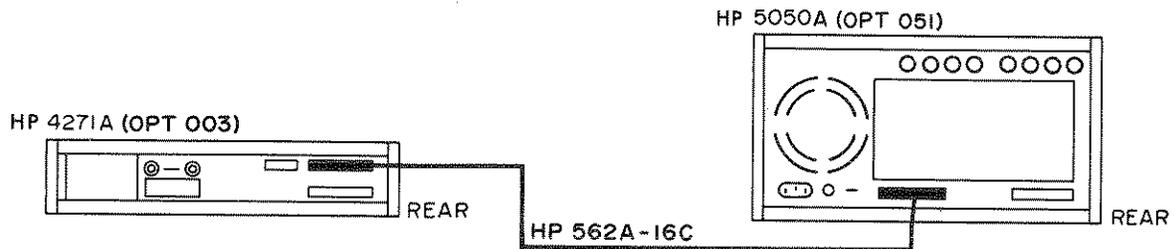

Figure 3-15. G/R BCD OUTPUT (OPT 003).
3-62. Refer to Figure 3-15.
c. In (2) of Figure 3-15, the 4271A is equipped with both options 002 and 003 and C/L data can be recorded by employing A1J2 of the 5050B OPT 050, See also Table 3-8 and Figure 3-16.